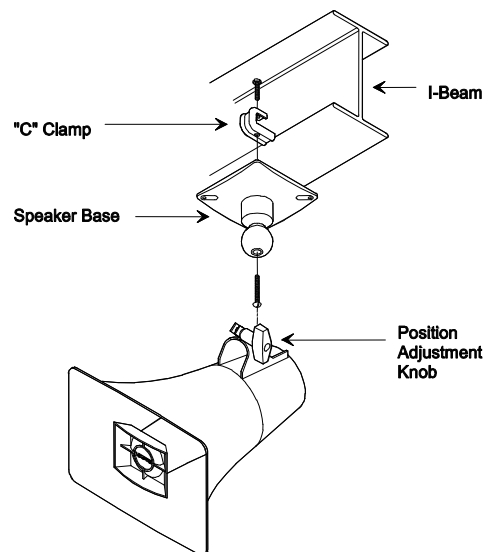

Figure 1 - Mounting to a Beam with a "C" Clamp
- A "C" clamp is provided with the horns to allow mounting to a beam. Place the bolt through the hole in the bottom of the base to secure the "C" clamp to the beam (See Figure 1). It is suggested that the horn be mounted to the underside of the "I" beam to provide maximum positioning adjustments.
The horns may be rotated or moved up and down to obtain the desired position by loosening the position adjustment knob (See Figures 1 and 2) at the bottom of the unit approximately one turn. and re- Make required adjustments tighten knob.